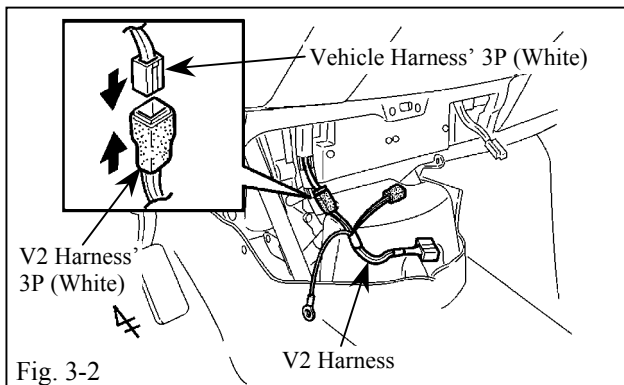
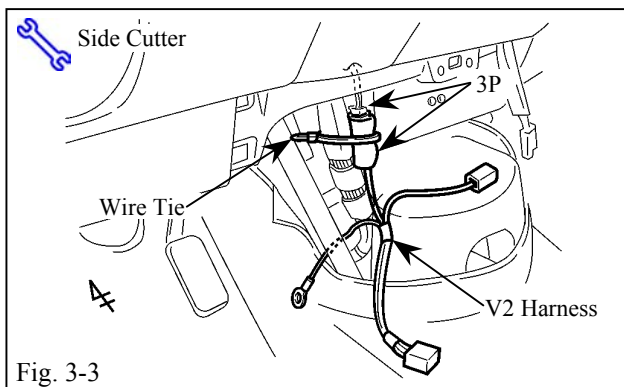

Fig. 3-2
Fig. 3-3
- (b) Plug in the V2 harness' white 3P connector to the vehicle harness' white 3P connector (Fig. 3-2)
- (1) Verify the connectors are plugged in securely.
- (c) Secure the 3P connector to the vehicle harness with one wire tie. (Fig. 3-3)